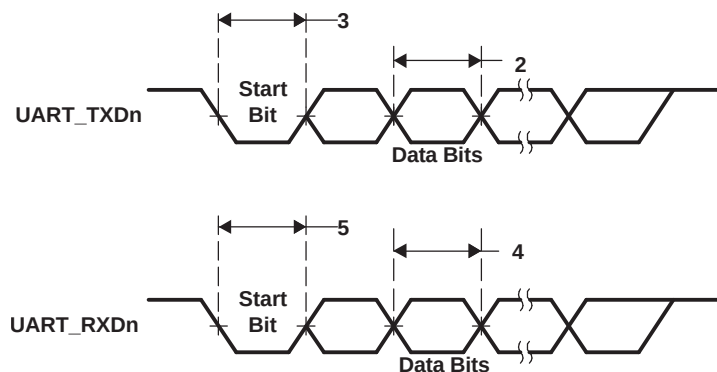

**Figure 6-42. UART Transmit/Receive Timing**
**Table 6-81. Timing Requirements for UART Receive(1)** (see Figure 6-42)
(see Figure 6-42)